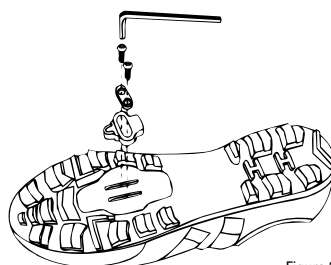

Figure 3
3. Line up the threaded bolt holes of the cleat washer over the double channels inside the sole of the shoe (fig. 3).